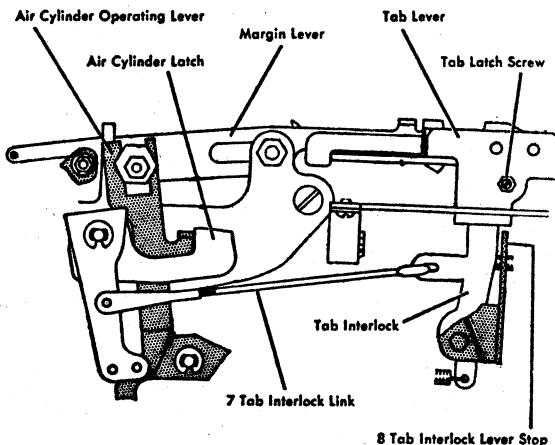

Figure 12. Tab Interlock Adjustment
7. THE TAB INTERLOCK LINK must pull the interlock lever far enough to cam the rebound check lever down below the level of any set tab stop when the carriage return is operating. Unlatch the air cylinder operating lever and adjust the interlock link so that the rebound check passes just below the tab stops (Figure 12).
8. FORM THE TAB INTERLOCK LEVER STOP to allow .005" to .010" between the interlock lever and the tab latch adjusting screw when the tab lever is at its extreme left position (Figure 12).